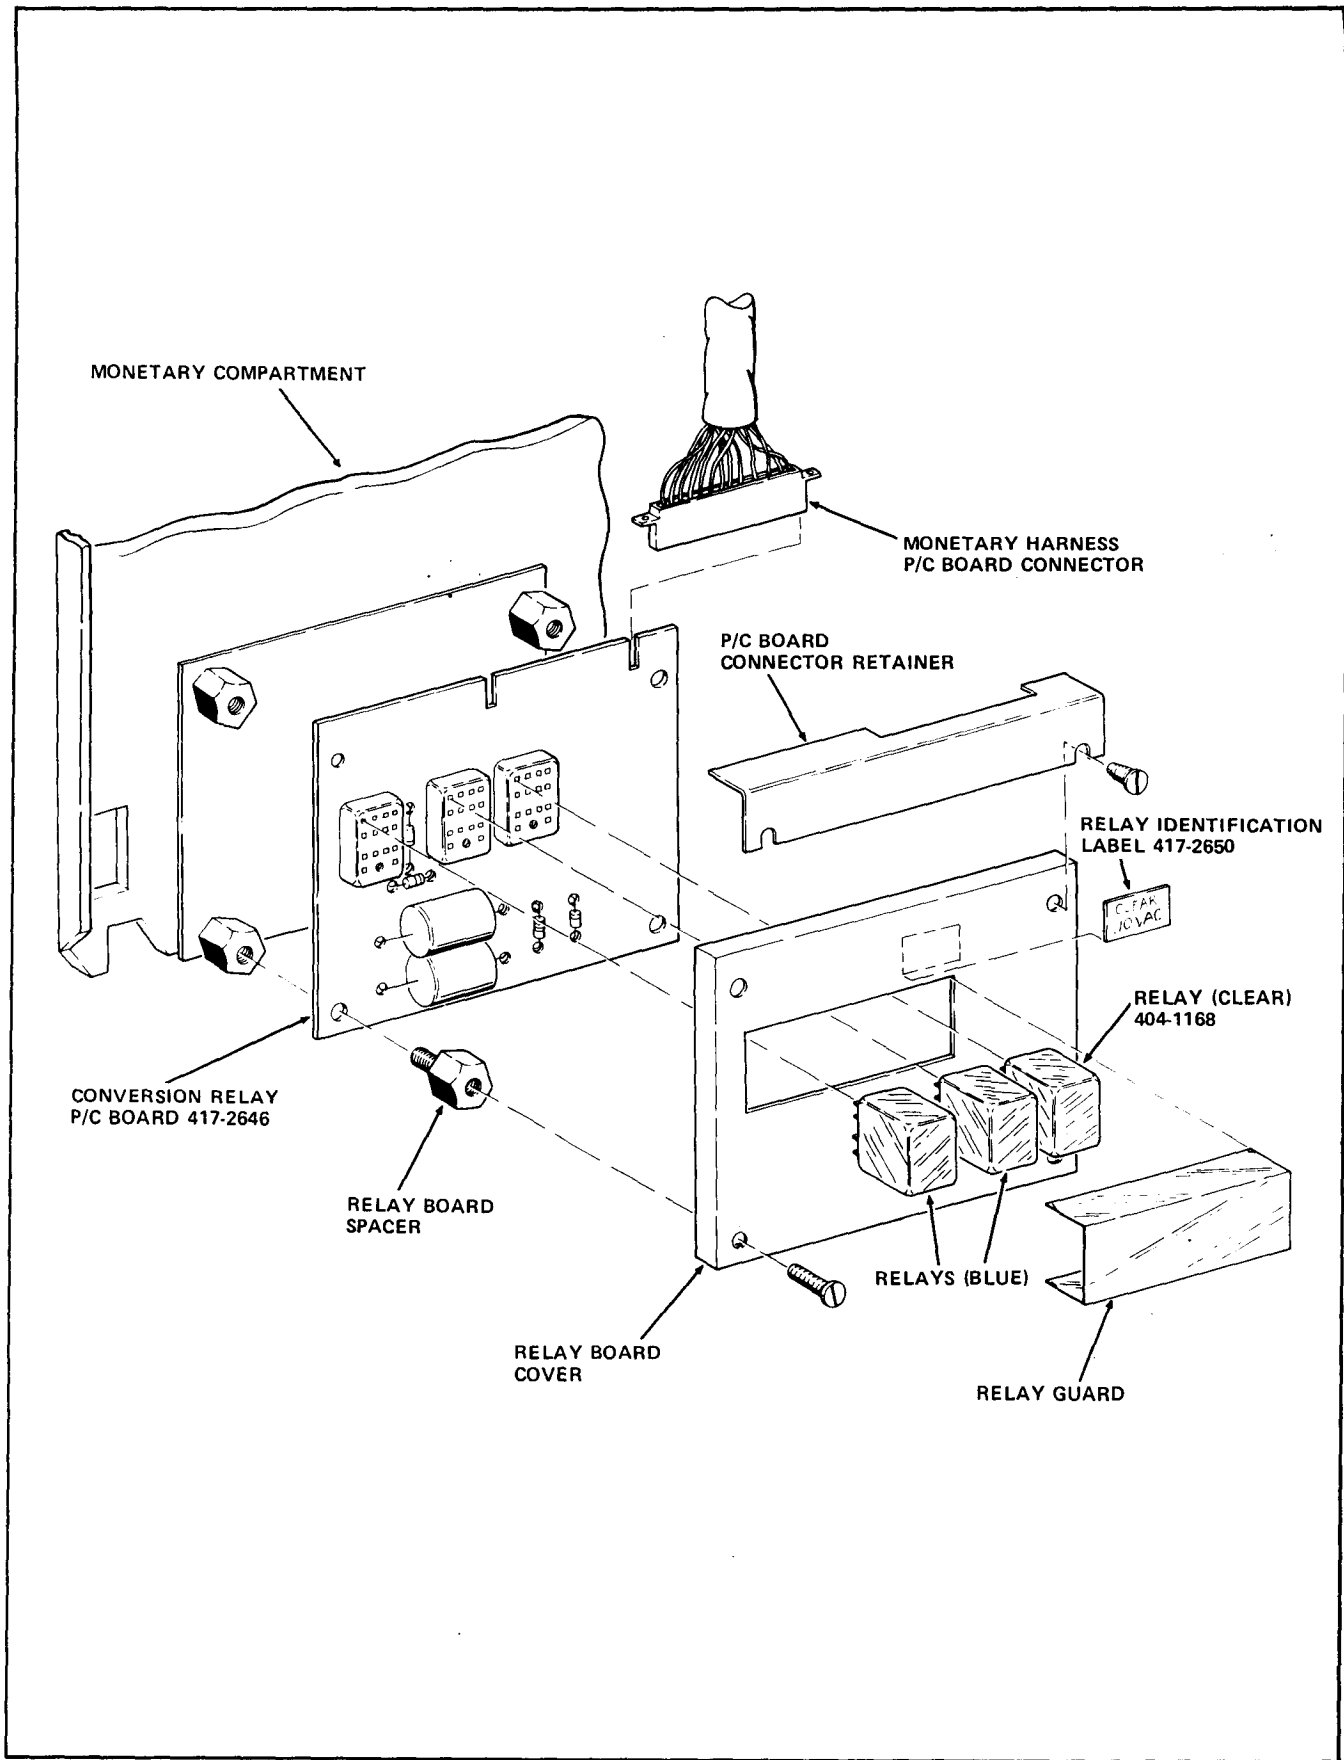

FIGURE 8
12. Install the Conversion Relay P/C Board included in the kit, part number 417-2646, in the Monetary Compartment, attaching with the four Relay Board Spacers removed in Step A-10. See Figure 8.
13. Connect the P/C Board Connector of the Monetary Harness to the Conversion Relay P/C Board. See Figure 8.
14. Attach the Relay Identification Label (clear) included in the kit, part number 417-2650, to the Relay Board Cover, placing the Label over the relay identification marking on the RIGHT. See Figure 8.
15. Attach the Relay Board Cover to the four Relay Board Spacers with the four Screws removed in Step A-8. See Figure 8.
16. Install two blue Relays removed in Step A-6 to the left and center receptacles of the Conversion Relay P/C Board. See Figure 8.
17. Install the clear Relay included in the kit, part number 404-1168, to the right receptacle of the Conversion Relay P/C Board. See Figure 8.
18. Install the P/C Board Connector Retainer, if equipped, on the Relay Board Cover. See Figure 8.